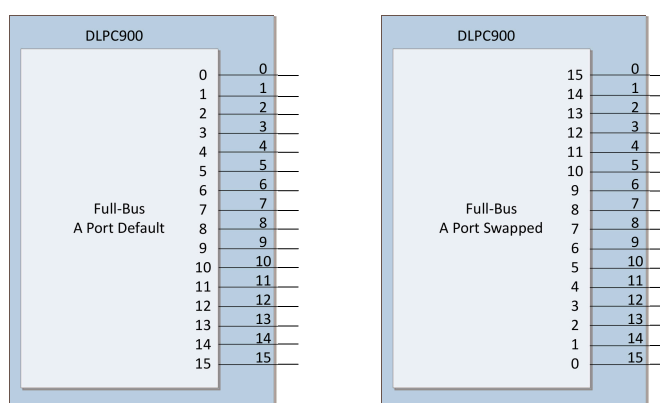

图 6-4. Controller to DMD Full-Bus Connections
- (4) The DLPC900 is a Full-Bus DMD signaling interface. 图 6-4 shows the controller connections for this configuration.
- (5) The pulse duration minimum for any clock rate can be calculated using the following formulas.
图 6-4 shows the controller connections for full-bus default or swapped. Refer to the Firmware section of the *DLP® LightCrafter™ Single DLPC900 Evaluation Module (EVM) User's Guide (DLPU101)* or *DLP® LightCrafter™ Dual DLPC900 Evaluation Module (EVM) User's Guide (DLPU102)* for details on how to select the bus swap settings to match the board layout connections.